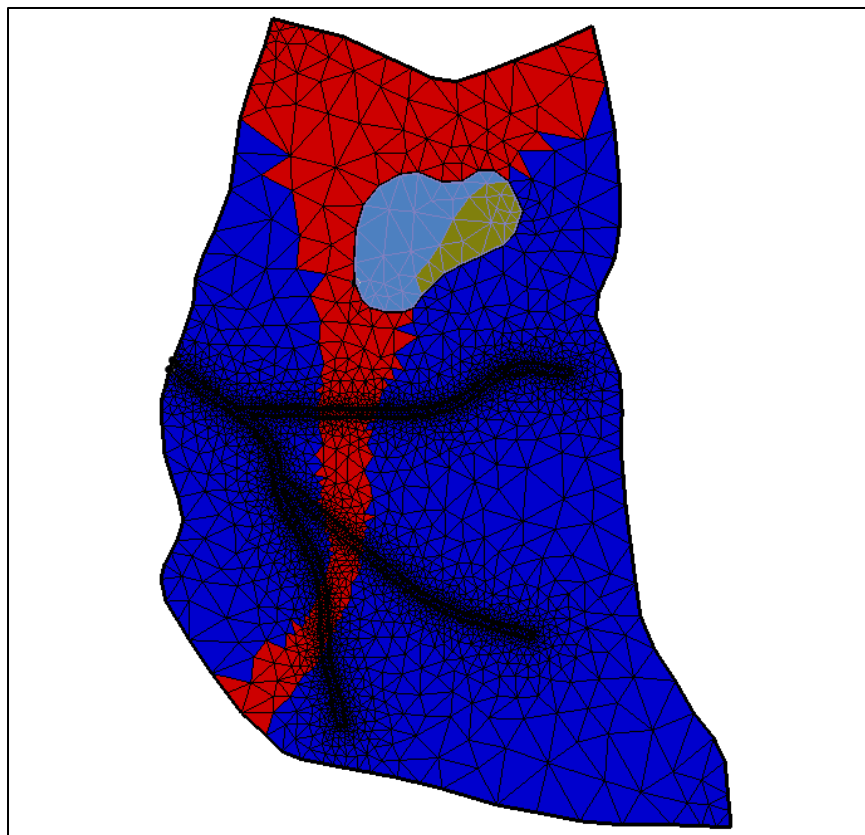

Figure 5 The clay lens polygon selected
11. Using the **Select Polygons**  tool, select the clay lens polygon ( Figure 5).